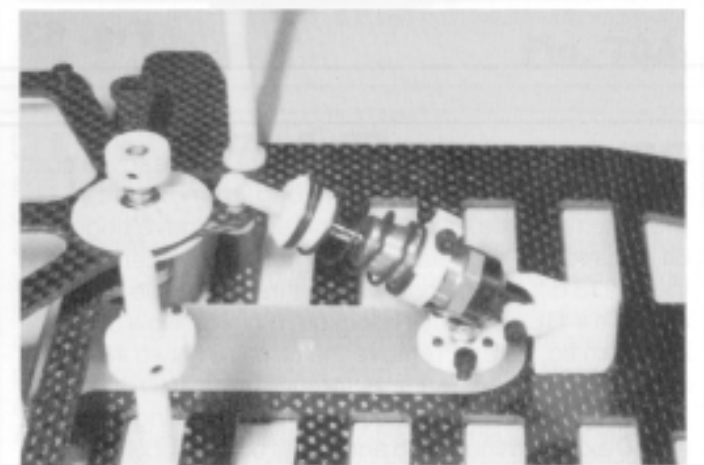

Fig. 61
□ **Fig. 61** Now snap the #6274 plastic ball end cap onto the #6270 steel ball mounted on the upper rear brace as shown.